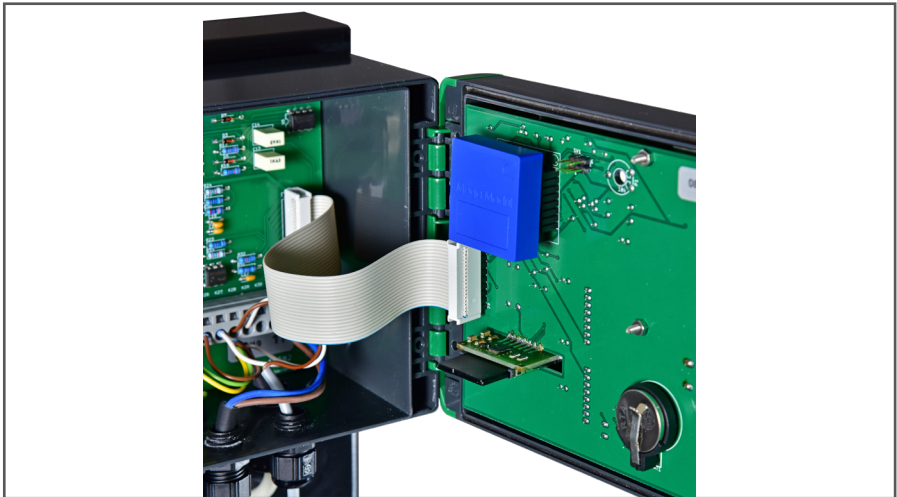

Fig. 3-4: SD card slot
- C Front panel (hinged) with SD card slot (see Fig. 3-4)